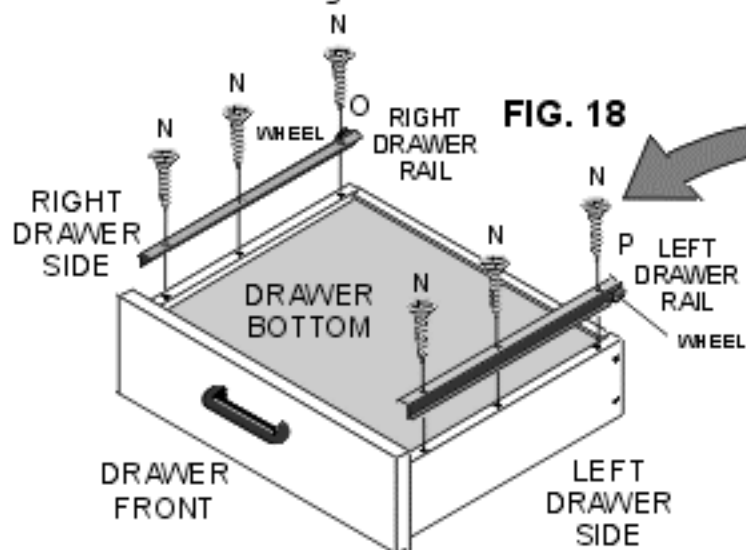

FIG. 18
Turn assembled drawer over. Align and attach (1) RIGHT DRAWER RAIL (O) and (1) LEFT DRAWER RAIL (P) to bottom edges of DRAWER SIDES as shown, using (3) #6 X 1/2" FLAT HEAD SCREWS (N) each. Insure that wheels on rail are positioned to the rear of the drawer as shown. FIG. 18